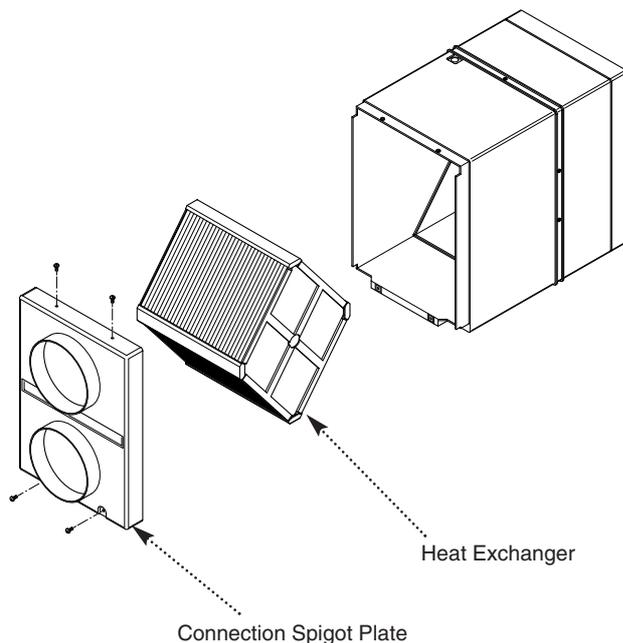

Fig. 4
6. Remove the connection spigot plate, heat exchanger, from the unit (Fig. 4).